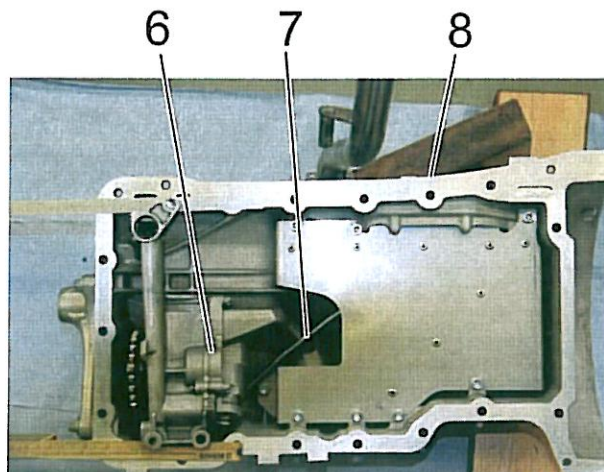

Bild 4 / Fig. 4
- **CAUTION:** Ensure that you search through the complete oil pan! Please pay special attention to the oil pan area under the oil pump! See Fig. 4, 5, 6, 7, 8, 9 and 10.
- CAUTION: Ensure that you search through the complete oil pan! Please pay special attention to the oil pan area under the oil pump! See Fig. 4, 5, 6, 7, 8, 9 and 10.